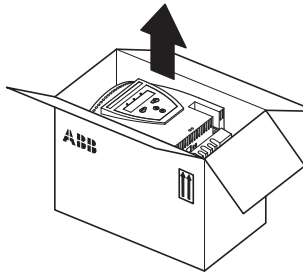

Figure 1: Package
- Check that the package is turned with the correct side up, Figure 1.